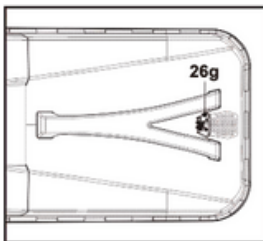

Fig. 14
1. When the hatch (26g) is open, the catcher (26) has sufficient space to collect grass (Fig. 14).